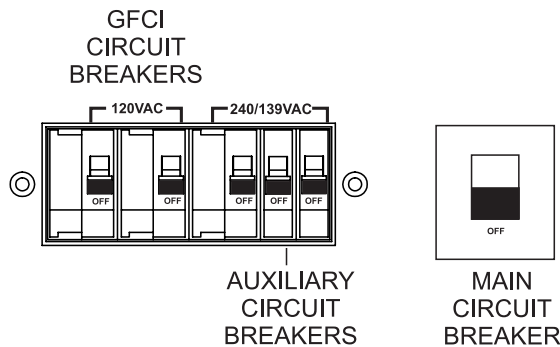

Figure 58. Main, Aux. And GFCI Circuit Breakers (OFF)
1. Place the **MAIN, GFCI and AUX.** circuit breakers in the **OFF** position as shown in Figure 58.
2. Place the **MAIN, GFCI and AUX.** circuit breakers in the **OFF** position as shown in Figure 58.